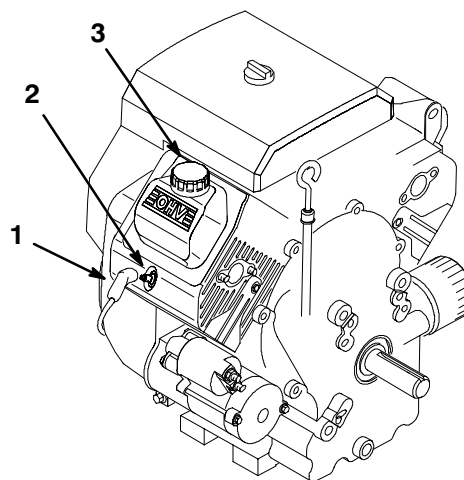

Figure 28
6. Slowly pour approximately 80% of the specified amount of oil into the oil filler tube (Fig. 28). Now check the oil level; refer to Checking the Engine Oil Level, page 13. Slowly add additional oil to bring the oil level to the FULL mark on the dipstick.
3. Pull the wire(s) off the spark plug(s) (Fig. 28). Now clean around the spark plug(s) to prevent dirt from falling into the engine and potentially causing damage.
3. Push the wires onto the spark plugs (Fig. 28).